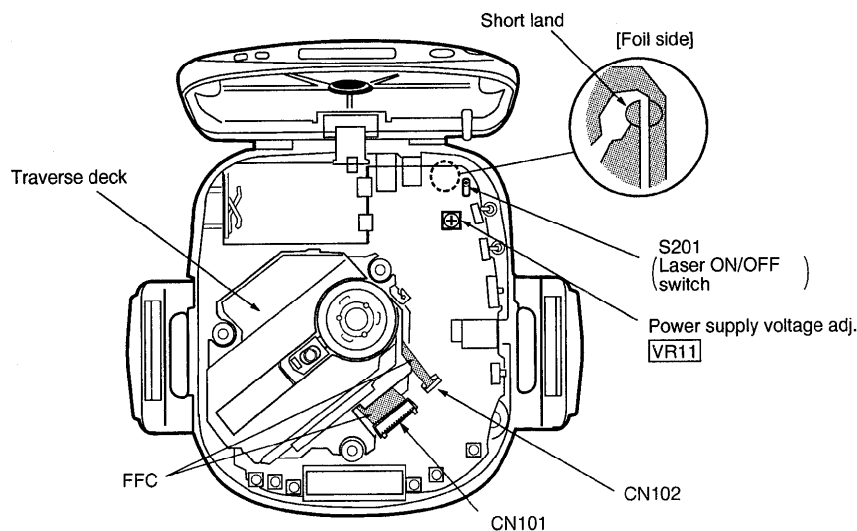

Fig.1
Short-circuit the lands of the laser ON/OFF switch (S201) by soldering them. It turns “ON” position. (Refer to below Fig. 1 or printed circuit board and wiring connection diagram for short land location on page 26.)
2. Take care to connect CN101 and CN102, as shown in Fig.1.
4. Adjust **VR11** on the P.C.B. at **3.10 ~ 3.14 V**, as shown in Fig. 1.
Fig. 1 is a block diagram showing the compression-shockproofing mechanism, the difference of which from the conventional mechanism is as follows: Input information read out at double speed undergoes data compression (16 bits → 4 bits) by the encoder in the ADPCM (Adaptive Difference PCM) and stored in the external memory; the stored memory information undergoes data elongation (4 bits → 16 bits) by the decoder in the ADPCM and supplied at normal speed to the D/A converter.